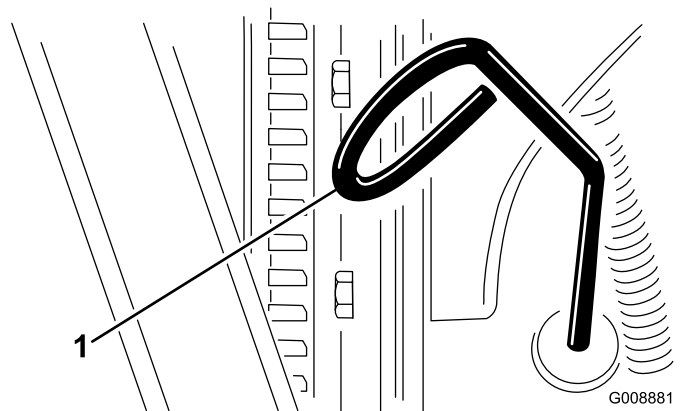

Figure 52
- Remove the dipstick, wipe it clean, install the dipstick into the tube, and pull it out again. The oil level should be between the FULL and ADD marks (Figure 52).
- If the oil level is low, remove the fill cap and add oil until it is between the FULL and ADD marks (Figure 52).